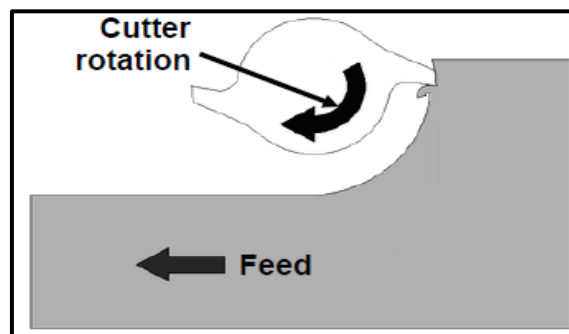

FIGURE 4.2
- 4.2 Identify the type of milling operation shown in FIGURE 4.2.